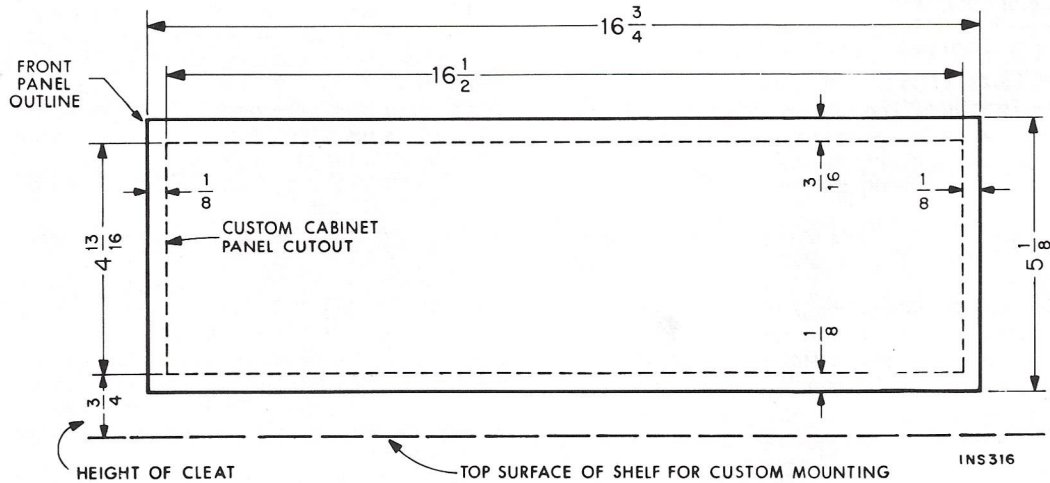

Figure 2. Horizontal Installation
(1) Cut two cleats 10 inches long from a piece of 3/4-inch square wood stock.
(2) Fasten the two cleats to the top of the mounting shelf with two *flat-head wood screws* as shown in Figure 2. If possible, insert the screws from the underside of the mounting shelf; if you must drive the screws through the cleats from above, make certain that the screw heads are countersunk below the top surfaces of the cleats.
(3) Locate and drill four 5/16-inch holes (A) through the mounting shelf and cleats as shown.
(4) Saw a cutout through the front panel of your cabinet to the dimensions shown.
NOTE: For additional ventilation, you may cut optional vent holes in the mounting shelf as indicated by the shaded areas in Figure 2. These vent holes are desirable but not necessary.